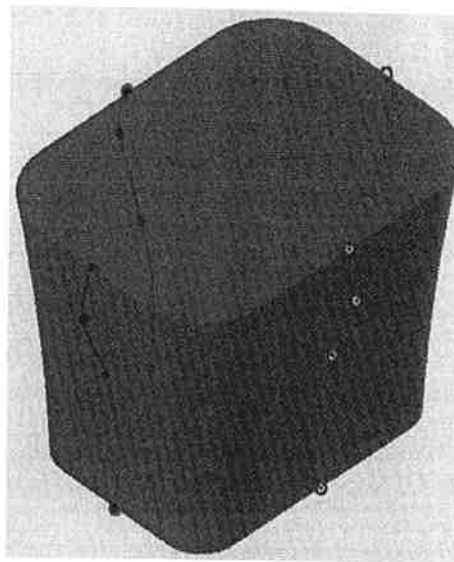

Figure 12–11
8. In the BROWSER, expand the **Sketches** folder and note that the three profile sketches are automatically toggled off once they are used. The model displays as shown in Figure 12–11.